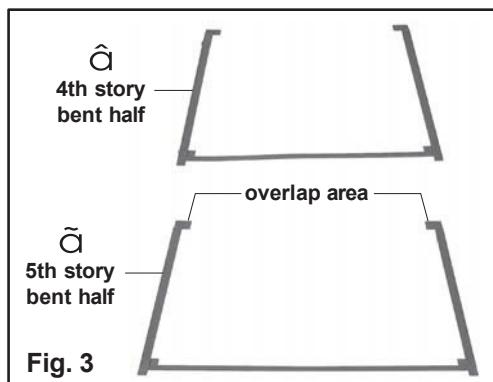

Fig. 3
1. Cement a 4th story **bent half** part (1) to a 5th story **bent half** part (2). See fig. 3. (If building a four story instead of a five story tower, skip this step.)